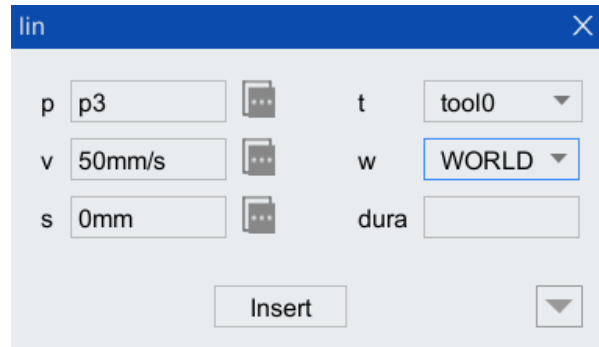

Figure 10-22 The lin instruction configuration interface
- Step6. Click [lin] to pop up the lin configuration interface (as shown in Figure 10-22), complete the parameter configuration, and click <Insert> to generate the first track start point instruction.